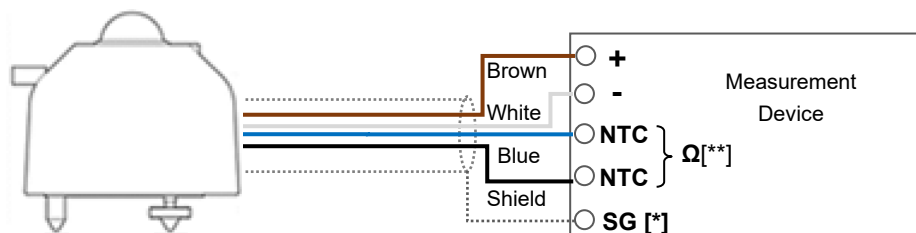

Figure 5-6. How to connect MS-80 (Till S/N: S19046150)
- B. MS-80 (Till S/N: S19046150, temperature sensor type NTC 10k Ω). Connect the 4 wires with corresponding color to the input terminals of the voltmeter or data logger (figure 5-6).